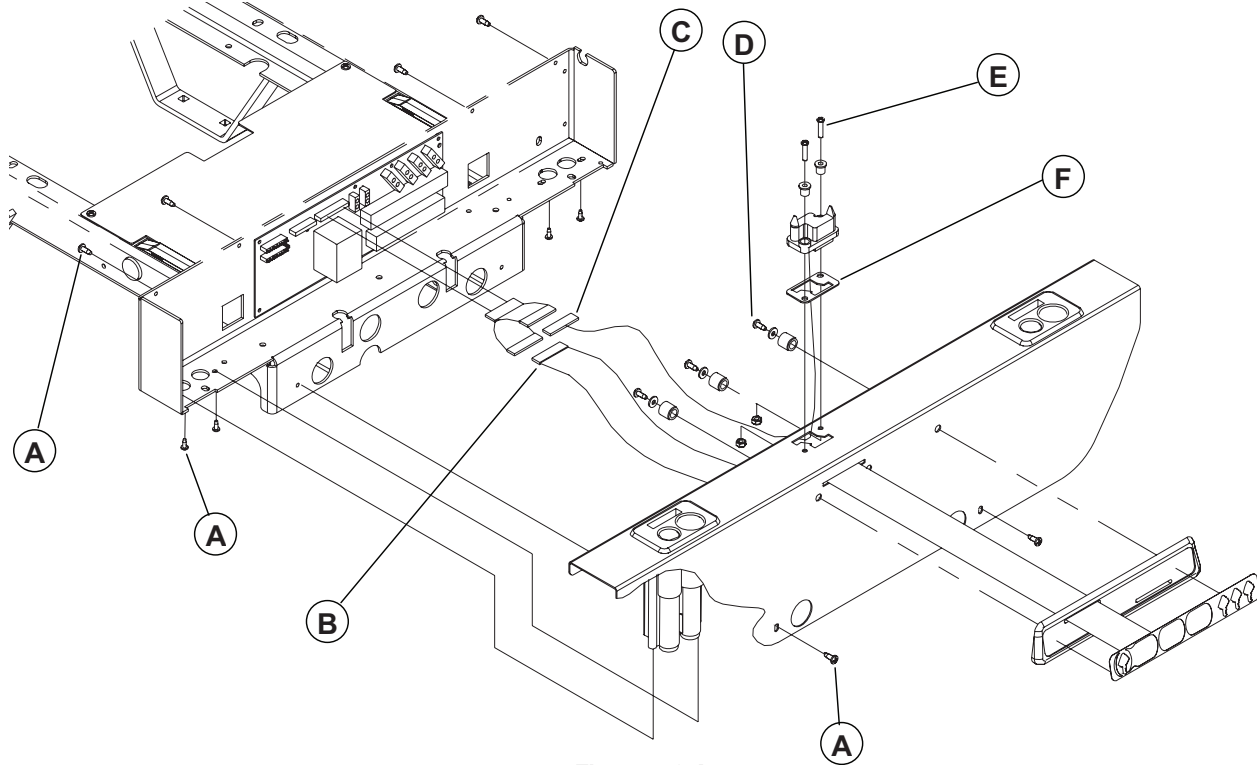

Figure 4.2 A
7. Using the #2 Phillips screwdriver, remove the 10 screws (A, Figure 4.2 A, pg. 32) holding the cover as well as the two I.V. poles to the foot box. Raise and remove the cover taking care to disconnect the electronic board first, the cable (B, Figure 4.2 A, pg. 32) of the control panel and, if applicable, the cable (C, Figure 4.2 A, pg. 32) of the connector from the foot box (optional).
8. Using the #2 Phillips screwdriver, remove the four screws (D) holding the two parts of the plastic cover over the siderail mechanism. Remove cover.
9. Using the two 1/2" combination wrenches, remove locknut, shoulder spacer and bolt (J) holding the locking hook to the plate. Remove hook.